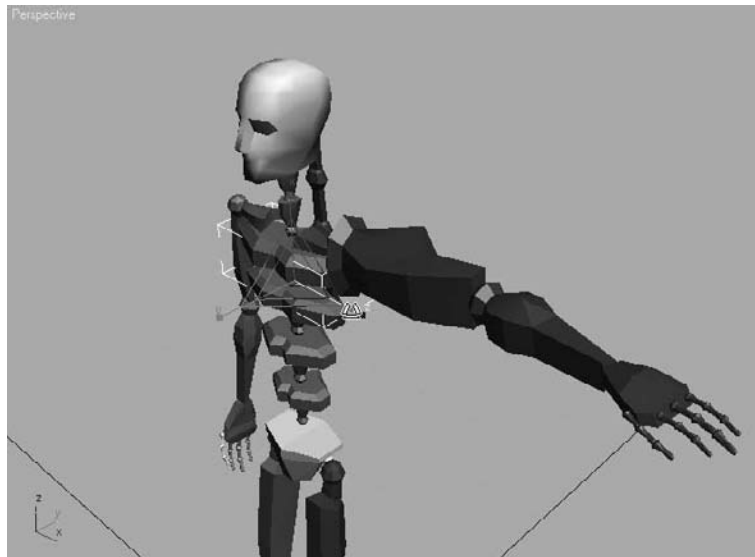

Figure 9.9
12. Select each of the spine links and scale them to give your biped a nice, tapered torso. Dragging the X handle upward will scale the links vertically and push the elements above them upward, increasing the height of the biped. Scaling the top spine link in the positive Z-direction will push the clavicles and all other arm components outward, as shown in Figure 9.9. The clavicles are linked to the middle of the top spine link and can be protruded by that link. If necessary, scale the clavicle to extend beyond the top spine link.